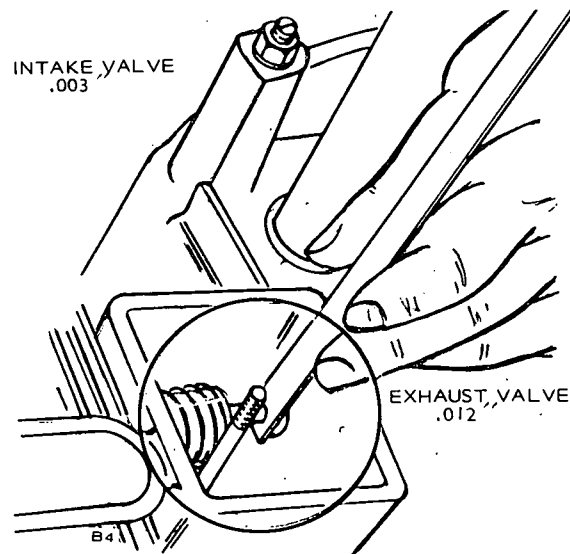

FIGURE 52. VALVE ADJUSTMENT
4. Clearances are shown in Figure 52 and *Tune-up Specifications*. For each valve, the gauge should just pass between the valve stem and valve tappet.